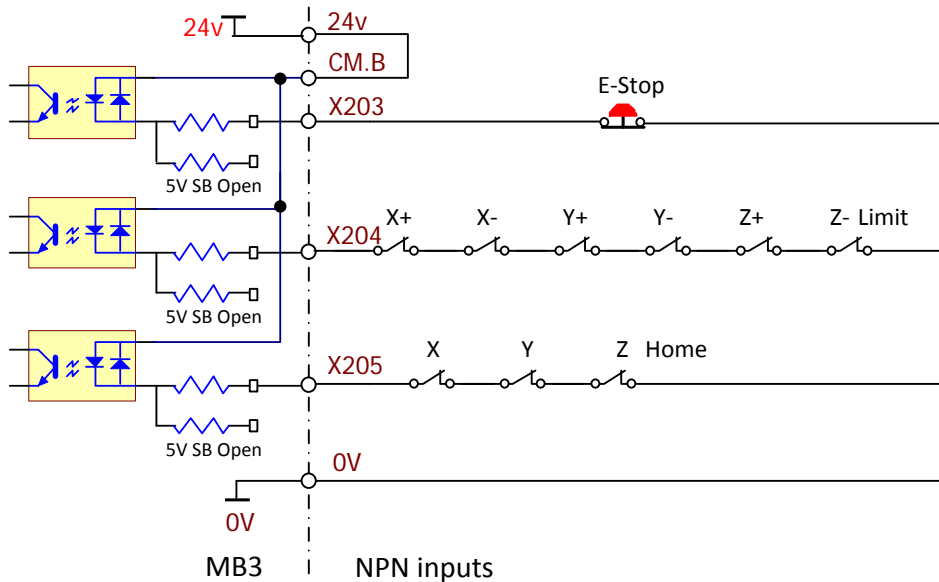

Figure 14, Conventional series connection of LIMIT and HOME switches.
**Figure 14** shows the NC contacts are wired in series to form AND logic. This is a conventional method to preserve some inputs for other tasks.